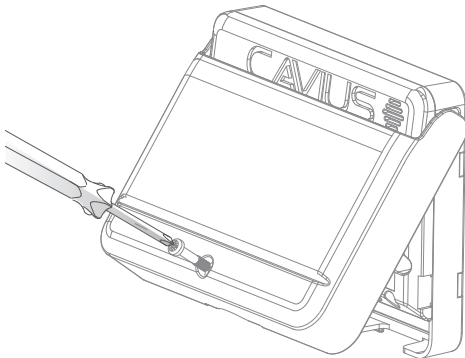

FIGURE 6
A. Remove cover (cover screw) to allow access to wire connections. See Figure 6.